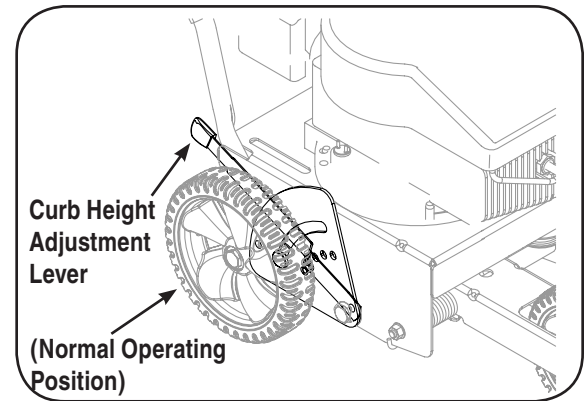

Figure 12
1. Lower the right, rear wheel by moving the curb height adjustment lever slightly to the left. See Figure 12.